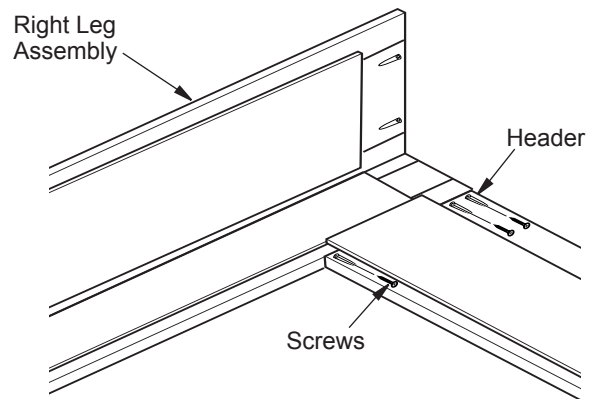

Figure 3 - Attaching Header
3. Attach header with three screws provided on each side as shown in Figure 3.